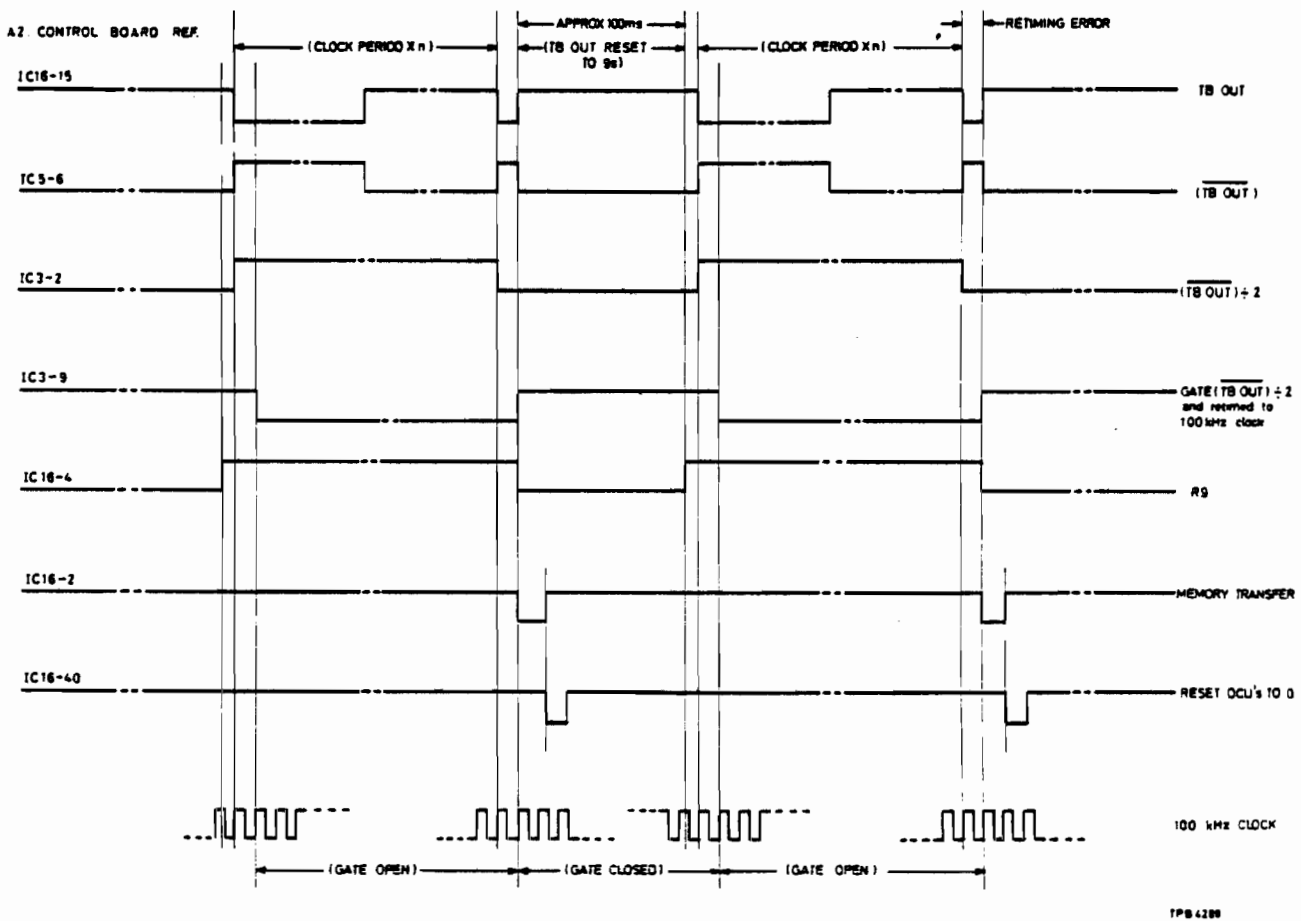

Fig. 4 Channel B timing sequences.
24. TTL monostable integrated circuits generate a timing sequence which determines the display time, memory transfer and reset times. Waveform diagrams which show the timing sequences for channel B operation are illustrated in Fig. 4.